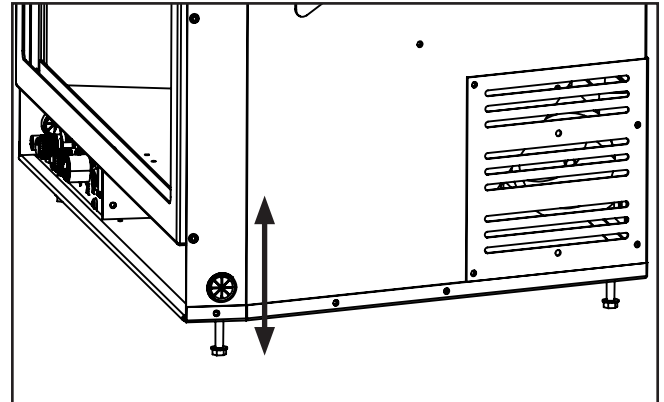

Figure 25: Levelling legs position.
15. Adjust the levelling legs to ensure the unit is level and high enough if a base shelf and/or riser is to be installed. There are four levelling legs on the bottom of the unit (shown in Figure 25).